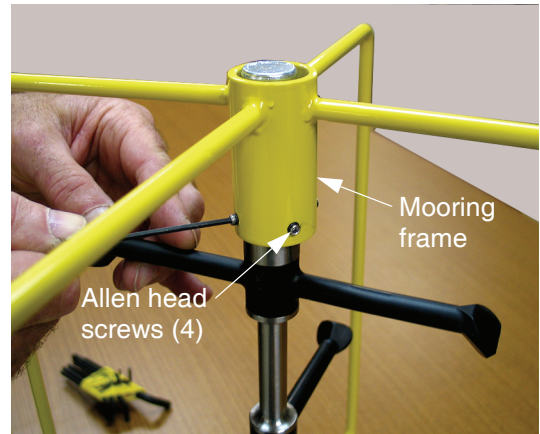

Figure 7-2: Loosening the Four Allen Head Screws in the Mooring Frame
- 2 Using a 3/32-inch Allen wrench, loosen the four screws at the top of the mooring frame as shown in Figure 7-2.